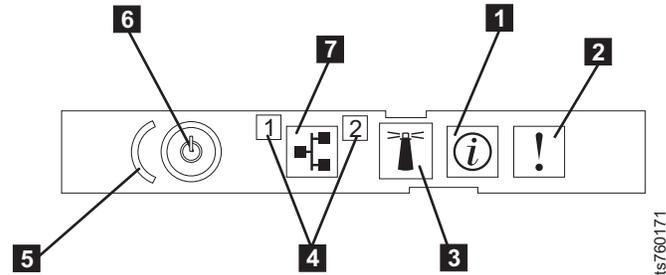

Figure 29. Server operator panel
- To turn on the servers, press the white, recessed power-control button on the server operator panel. See Figure 29 on page 71.